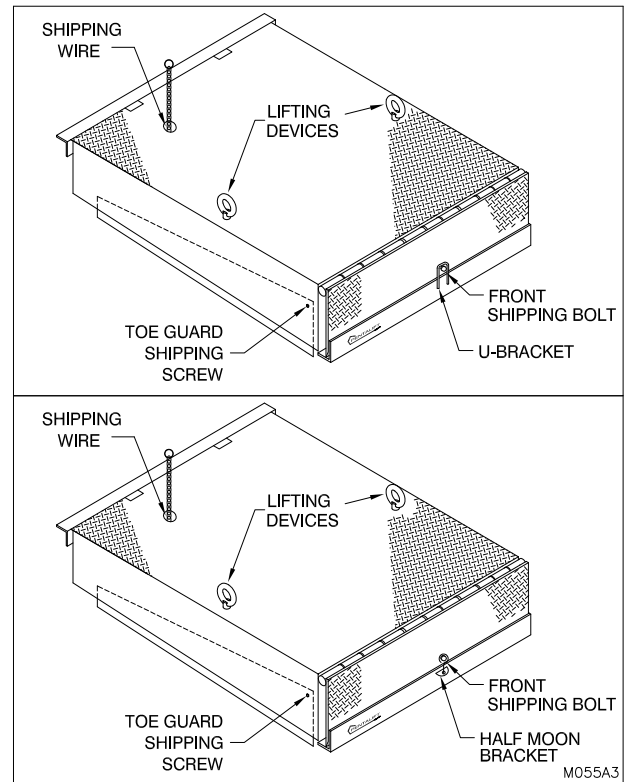

Figure 4: Shipping Wire, Bolts and Lifting Devices
7. Remove the shipping wire. (**CAUTION**, if the shipping wire is not removed, the dock leveler deck and lip will rise once the shipping bolt is removed). Then remove the top shipping bolts and lifting devices. Some units come equipped with a front U-Bracket while others come equipped with a front Half Moon Bracket. If your unit comes with the front U-Bracket then **remove** the front shipping bolt then **remove** the U-bracket and clean up the remaining weld to ensure there is no interference with the lip operation. If your unit comes with the Half Moon Bracket, first **remove** the front shipping bolt and finally **remove** the Half Moon Bracket and clean up the remaining weld to ensure there is no interference with the lip operation. (See Figure 4: Shipping Wire, Bolts and Lifting Devices on page 6)
10. For units with full range toe guards, support the lower half of the toe guard and remove the self tapping screw which holds it in the shipping position. (See Figure 4: Shipping Wire, Bolts and Lifting Devices on page 6) Carefully lower the toe guard and avoid pinch points.